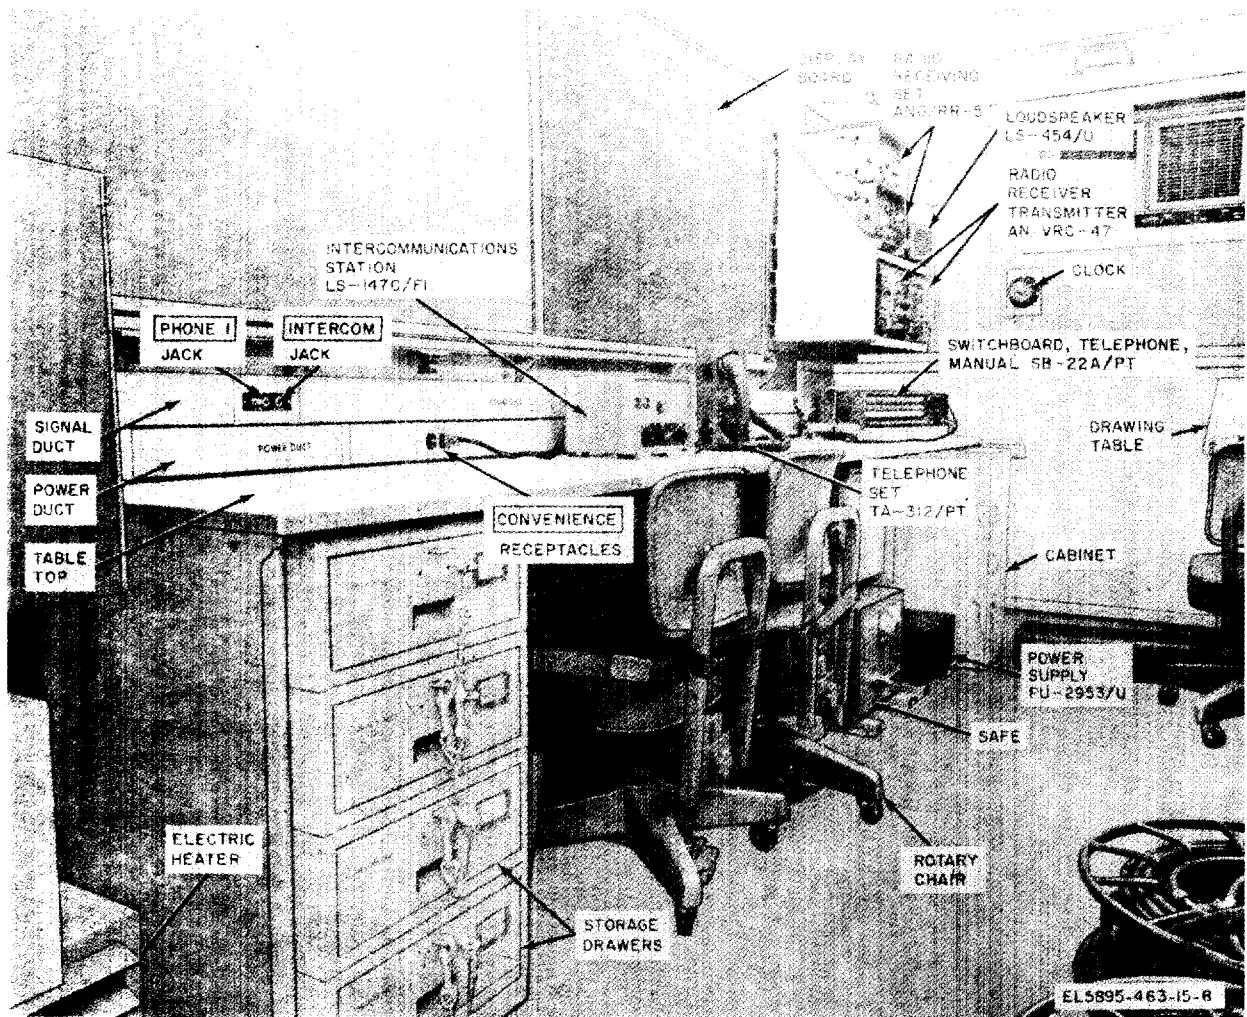

Figure 1-8. Operations Center, Communications AN/MS-13A, interior roadside view.
(3) *Intercommunication Station LS-147C/F1* (fig. 1-8). The LS-147C/F1 (TM 11-5830-221-12) provides two-way, non-